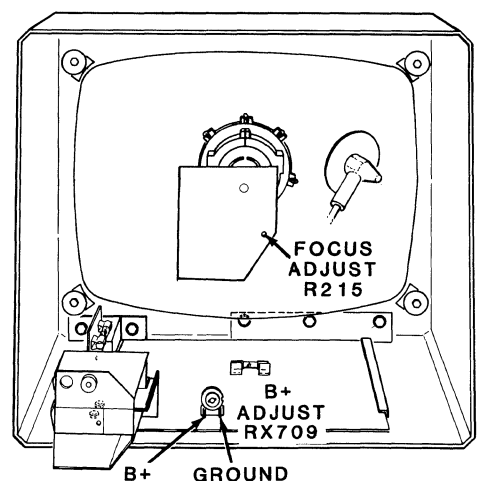

Figure 7.2
Refer to Figure 7.2 when making the focus adjustment.
Refer to Figure 7.2.
3. Connect a digital voltmeter's (DVM) negative test lead to ground and its positive test lead to B+ ADJUST as indicated in Figure 7.2.